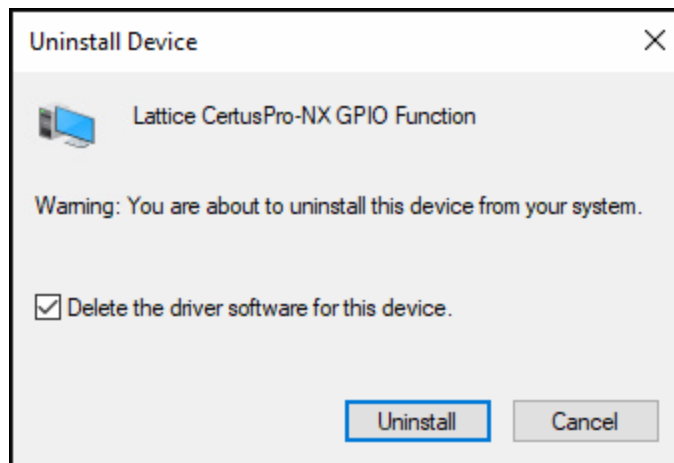

Figure 5.34. Select the Check Box and Click on Uninstall Button
3. Checked the option **Delete the driver software for this device** and click on **Uninstall** as shown in Figure 5.34.